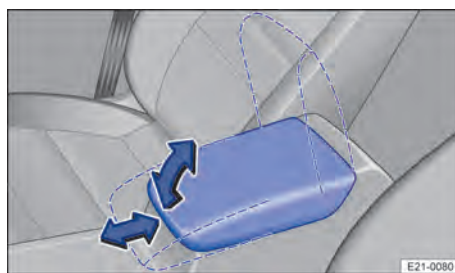

Fig. 84 Between the front seats: centre armrest.
→ Fig. 84.
3. *Adjust in longitudinal direction:* slide the centre armrest forwards or backwards → Fig. 84.